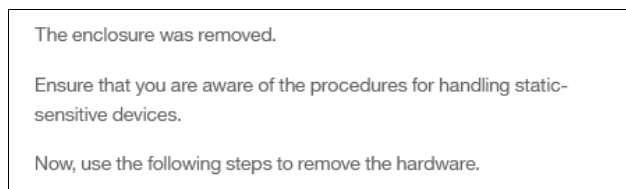

Figure 4-135 Enclosure removed
3. After the enclosure is logically removed from the system (set to the *Unmanaged* state), the system reminds you about the steps that are necessary for physical removal, such as power off, uncabling, dismantling from the rack, and secure handling (see Figure 4-135).